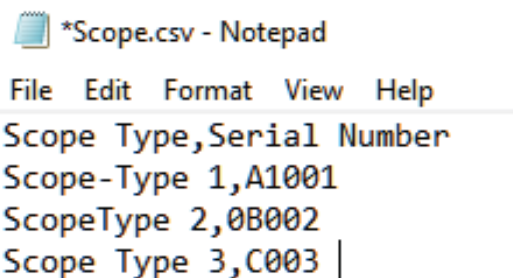

Fig. 54
2. Save the file as "Scope.csv" (without quotations) (Fig. 54).